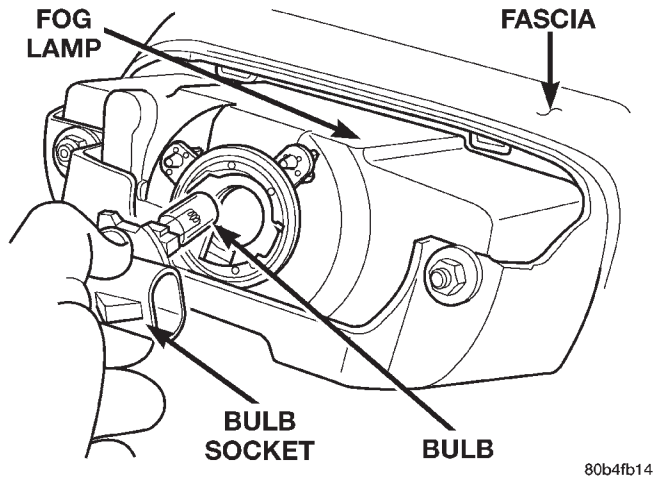

Fig. 2 Fog Lamp Bulb
- (1) Disconnect fog lamp harness connector.
- (2) Rotate bulb socket 1/4 turn counter clockwise.
- (3) Remove bulb socket from lamp (Fig. 2).